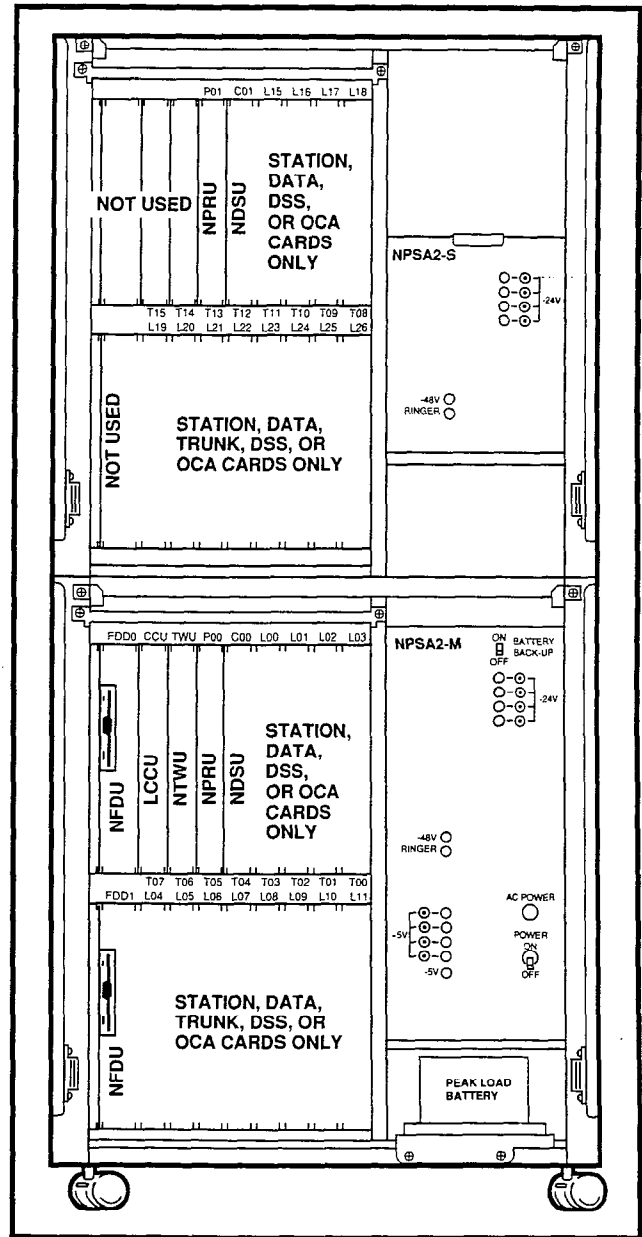

FIGURE 2-7—PERCEPTION_e PCB INSTALLATION
6.00 Sixteen different types of PCBs are available for use in both PERCEPTION systems (Figures 2-7 & 2-8). The universal port architecture enables multiple installation of trunk cards. The PERCEPTION_e can support a maximum of 16 trunk cards; 8 in the basic cabinet, and 8 in the expansion cabinet. The PERCEPTION_{ex} can support a maximum of 32 trunk cards; 24 in the basic cabinet, and 8 in each expansion cabinet.